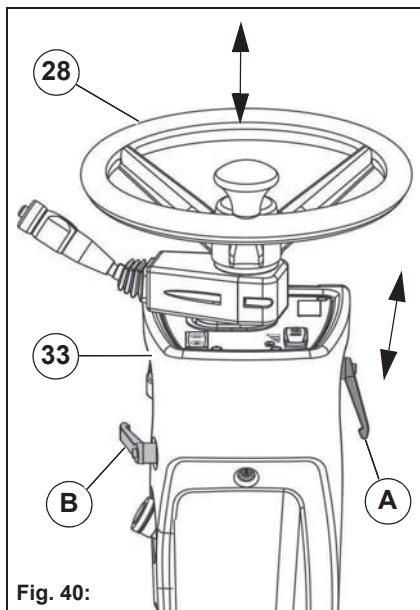

Fig. 40:
- Turn the lever Fig. 40-A counter-clockwise until the steering column is unlocked.
- Turn the lever Fig. 40-B counter-clockwise until the steering wheel is unlocked.